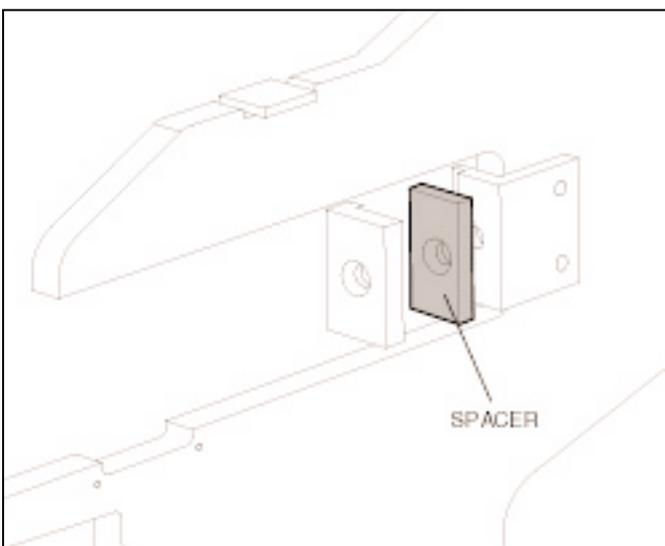

Figure 19.9 MOVE MOLD LOCK ARM BACK.
- 19.1.8 Remove spacer from mold throat liner assemblies. Reattach liners #448784 (figure 19.9) with 2" flat head screw #089597.